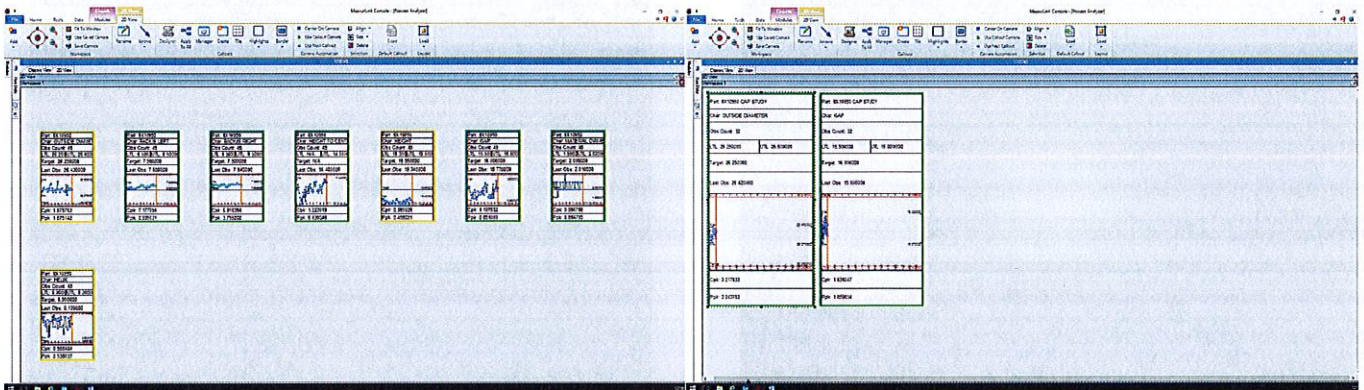

Figure 1: MeasurLink screen showing a results entry page for both a full dimensional and SPC inspection.
6.1.3. Use of MeasurLink. Measure the dimensions in the order they are detailed in on the MeasurLink screen using Figure 1: as an example of both a full dimensional and SPC inspections.